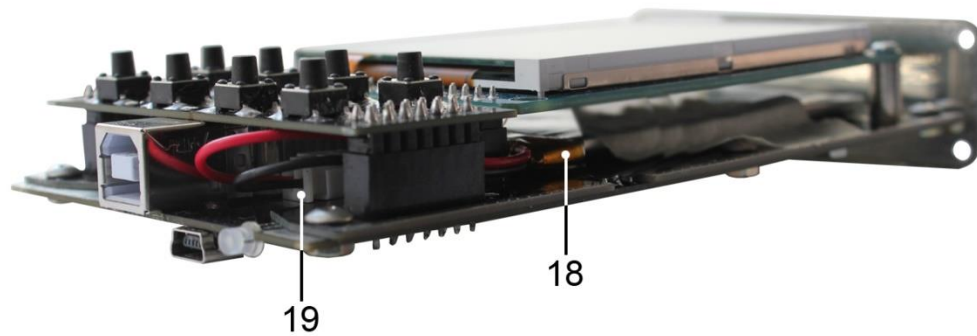

Figure 11.3 – Battery replacement
11.3.6. The battery (18) is located on the chassis under the screen module and secured with double-sided tape. Carefully disconnect the battery connector (19) from the connector located on the circuit board, under the control button module (Figure 11.3). Remove the old battery (18) and remove the old double-sided tape that attached it to the chassis.